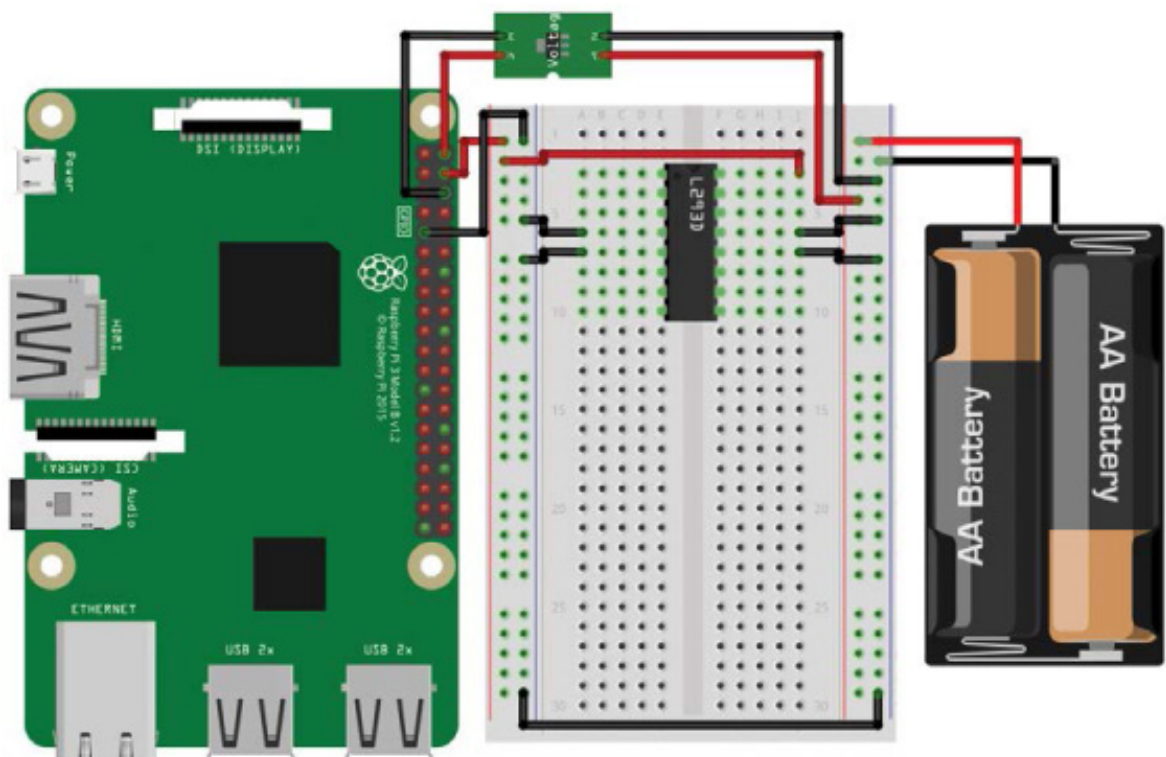

FIGURE 3-25 5 V power connected to the L293D and all four grounds wired
- Next use a wire to connect pin 16 (VCC 1) of your L293D to the 5 V positive power rail (the one connected to your Pi's 5 V pin). This is the chip's power supply. Once you have done this, connect the ground pins (GND) found on pins 4, 5, 12, and 13 of your L293D to the common ground. See the breadboard diagram in Figure 3-25 for guidance.